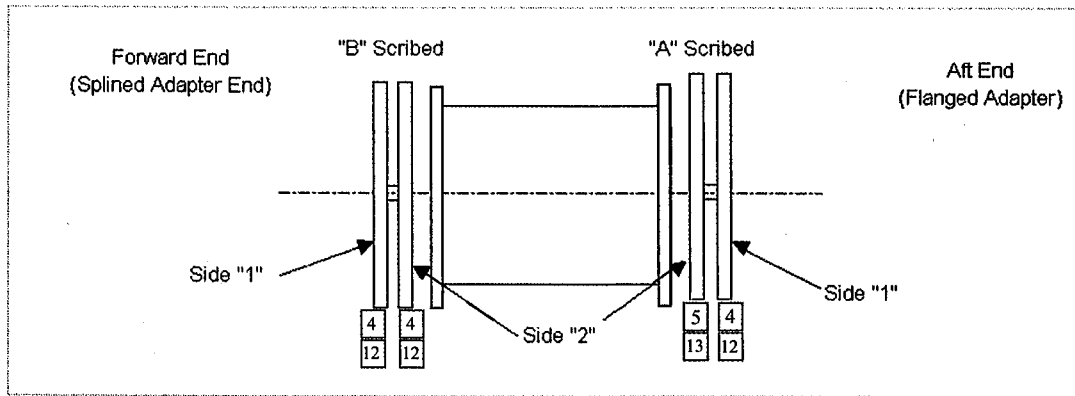

Figure 21 - Final Assembly Bolt Layout
- a. Install all D-headed bolts (Items 4 and 12) using the installation method in section E.2.2. (See Figure 21)
- a. Install all D-headed bolts (Items 4, 12, 5, 13) using the installation method in section E.2.2. (See Figure 21)